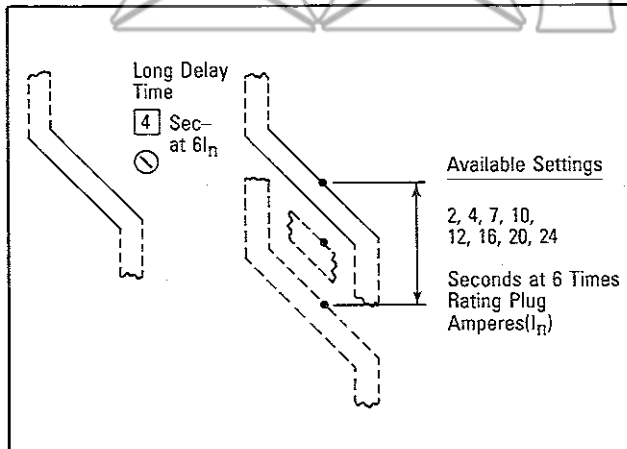

Fig. 4.2 Long Delay Time Settings
Eight (8) available settings, as illustrated in Fig. 4.2, range from 2 to 24 seconds. These settings represent total clearing times at a current value equal to six (6) times the installed rating plug ampere rating (I_n).